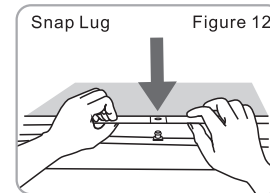

Figure 12
6. Snap Lugs Frame installation: Adjust the distance between Snap Lugs to fit the holes on the edge of fabrics and then clap the fabric on the Snap Lugs one by one. It is recommended to operate the long side first (see figure 12, 13). Spring-Hook Screen installation: Hitch the bigger opening side on the Tensioning Bar, and started with the other end on the corner of the frame, and hitch the rest in sequence. (see figure 14-16)